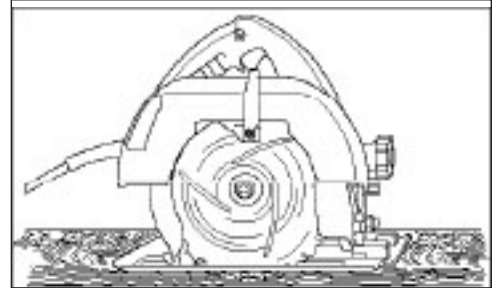
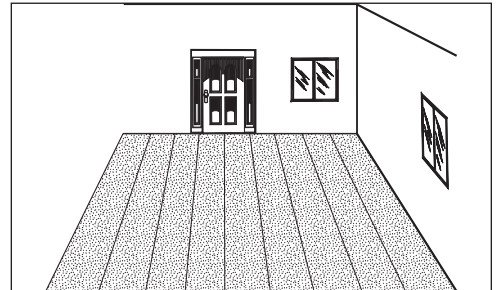

FIG. 10
FIG. 11
**Glued Hardwood Flooring:** A 10" (25.4 cm) blade is recommended for regular adhesive; a 6" (15.25 cm) blade for epoxy. For proper removal of hardwood flooring (plank solid, plank laminated, parkay laminated), flooring must be scored to blade width. This is done by using a circular saw set at a depth of 99% of the thickness of the board, just missing the subfloor surface when on concrete (Figure 10). A chalk line for scoring lines can be used across the floor the width of the blade (Figure 11). A ripping guide attached to the saw can be used to eliminate chalk line marks. For true parkay flooring, scoring is not necessary. It will come up in small pieces. Open an area large enough to fit machine or start from a doorway.